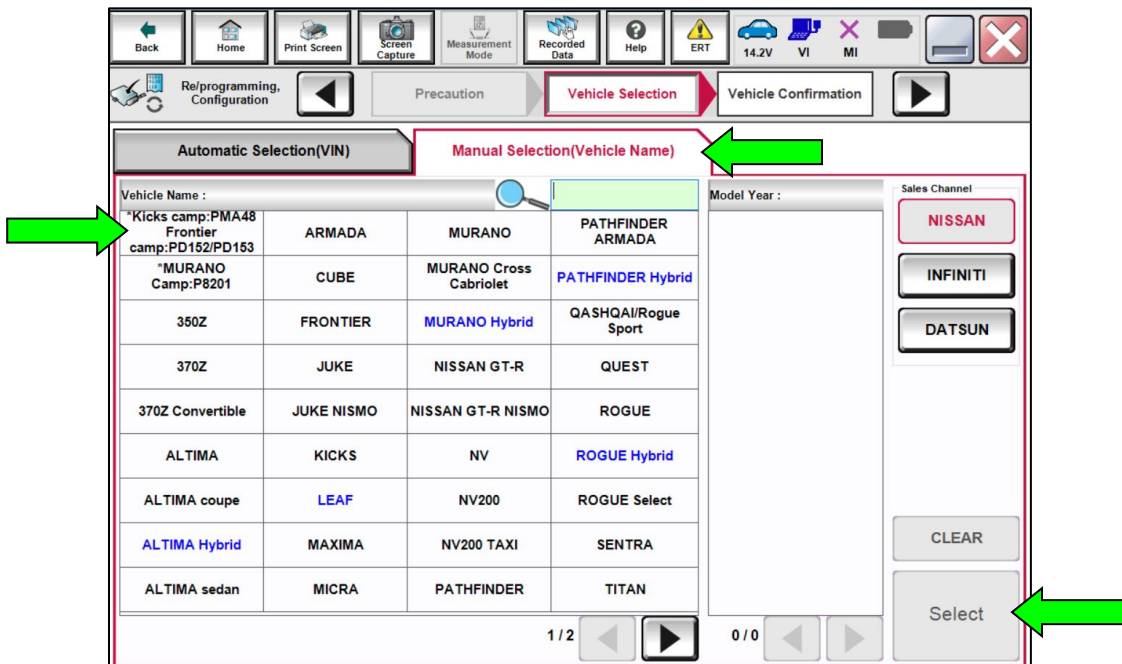

Figure 13
23. Select **Manual Vehicle Selection** (Figure 13).
24. Select **Kicks camp:PMA48 Frontier camp:PD152/PD153**, and then select **Select** (Figure 13).